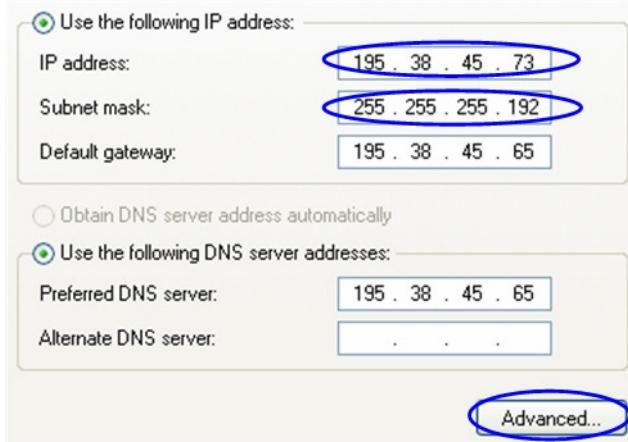

Figure 14. Change IP-address
IP-address on the Ethernet adaptor to some address from 10.10.10.0/24 network (e.g. change “IP-address” field to “10.0.0.11 and “Subnet mask” to “255.255.255.0”). After that click **OK** and move to step 7. See Figure 14
6. If you are in a LAN and you do not want to change your primary IP-address so you could keep LAN connectivity, you can assign an alias. In order to do that, press “Advanced...” button (Figure 14). In “Advanced TCP/IP Settings” click “Add” and put alias IP-address and mask (e.g. “10.0.0.2” and “255.255.255.0” correspondingly). See Figure 15. Click **OK** in all windows opened in the described procedure.